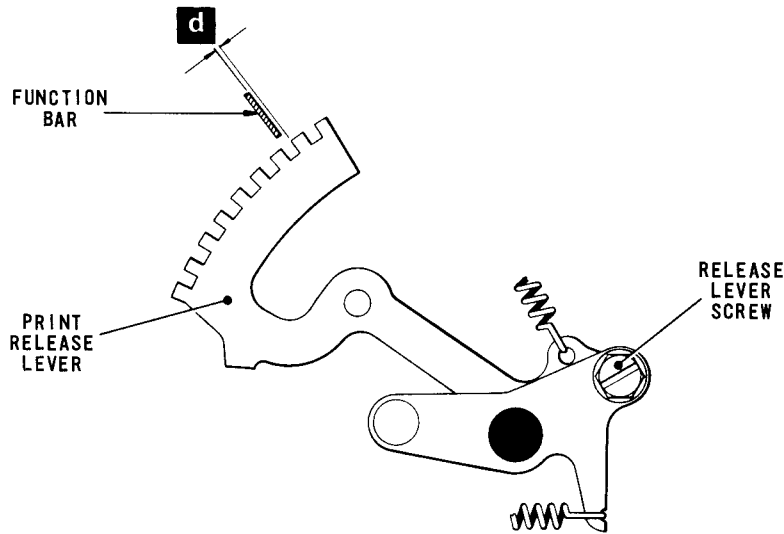
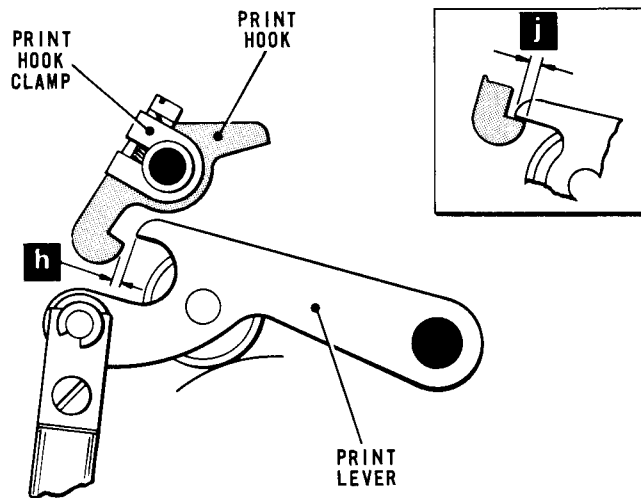

Fig. 4.5 PRINT RELEASE MECHANISM
Fig. 4.7 NON-PRINT HOOK MECHANISM
- 6.1 With the translator camshaft in the rest position, check that the function bars, Fig.4.5, are centrally positioned with respect to their corresponding slots in
- 9.1 Set up any **printing** character in the pin-box, lift the translator clutch abutment and turn the camshaft by hand until the print release lever, Fig.4.5, drops. Check that there is a minimum horizontal clearance of .030 in. (dimension 'h') between the end of the print lever, Fig.4.7, and the step of the print hook.